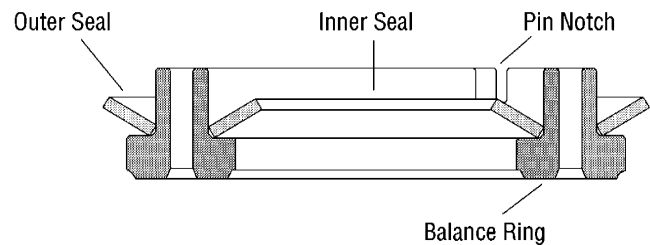

Figure 15
**37** Apply petroleum jelly to inner and outer face seals. Install seals on balance ring as shown in Figure 15.
**Important:** Install face seals in the positions shown in Figure 15, or the motor will not operate properly. Do not force or bend the face seals. Any damage to these seals will affect the operation of the motor.